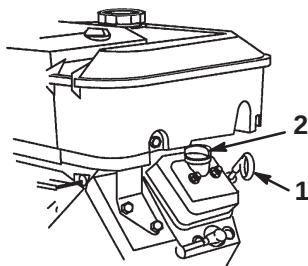

Figure 10
- Remove the dipstick and wipe it with a clean rag (Fig. 10). Insert the dipstick into the tube and make sure it is seated fully. Remove the dipstick and check the oil level.
- If the oil level is low, remove the filler cap from the valve cover (Fig. 10) and pour oil into the opening until the oil level is up to the Full mark on the dipstick; refer to Engine Oil, page 24, for the proper oil type and viscosity. Add the oil slowly and check the level often during this process. **Do not overfill.**